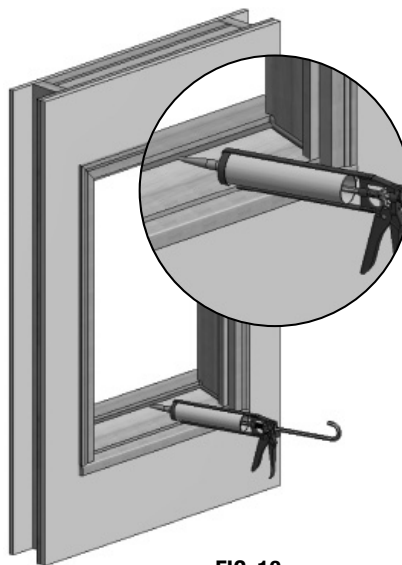

FIG. 10
- G) Apply silicone to sill joints along side jamb and sill stop. (Fig. 10)